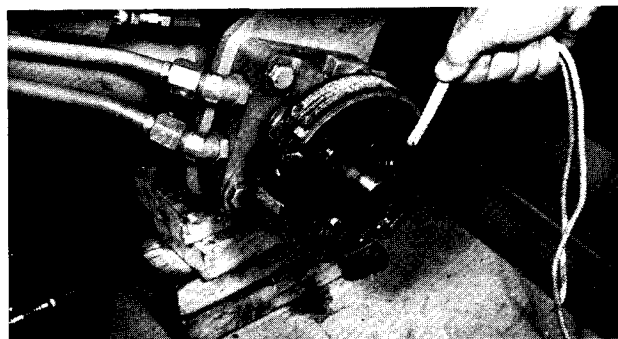

Figure 14
- 4 Remove brake shoe springs and brake shoes. Disconnect brake linkage (Fig. 14 & 15).